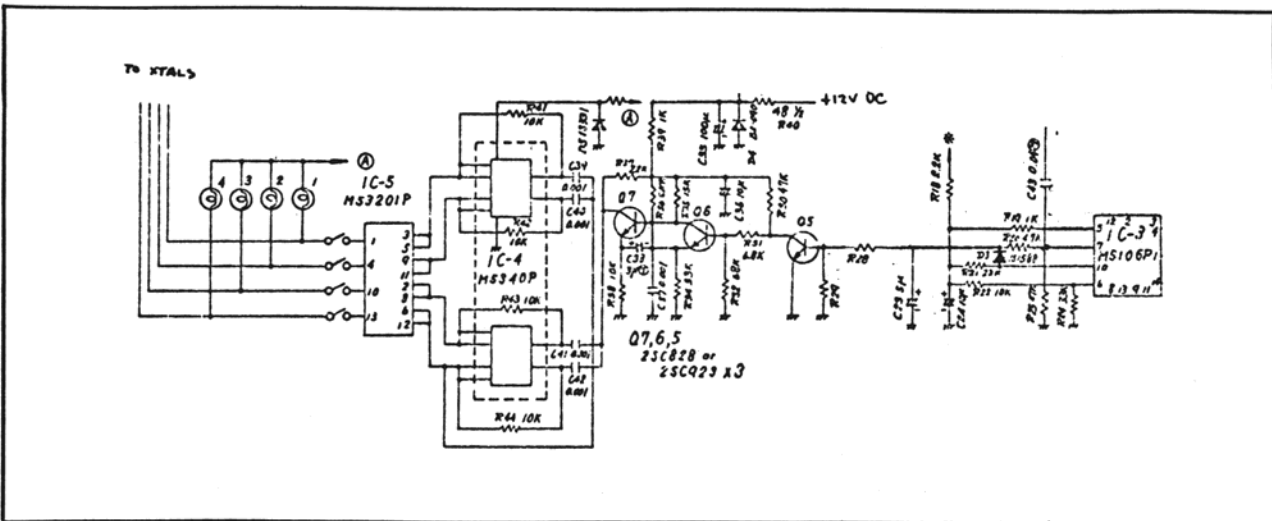

Figure 3-3 Scan Circuit
3.2.3 Scan Circuit (Figure 3-3)